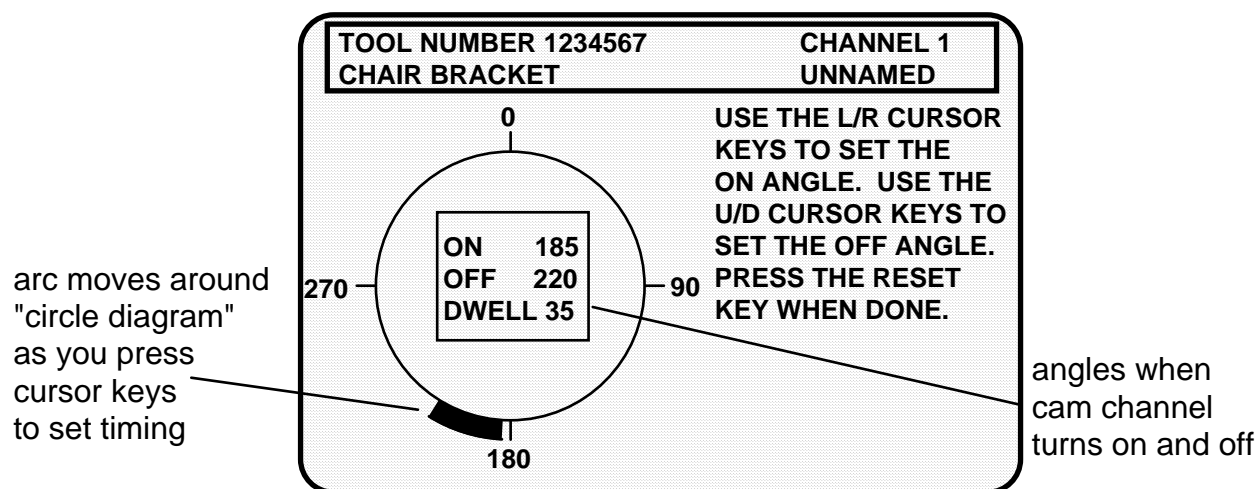

Figure 5-23. Illustrating programmed channel 1 "part blow-off"
2. You see a display (similar to Figure 5-23) which includes information about the tool and cam channel. Notice also the circle diagram on the display.